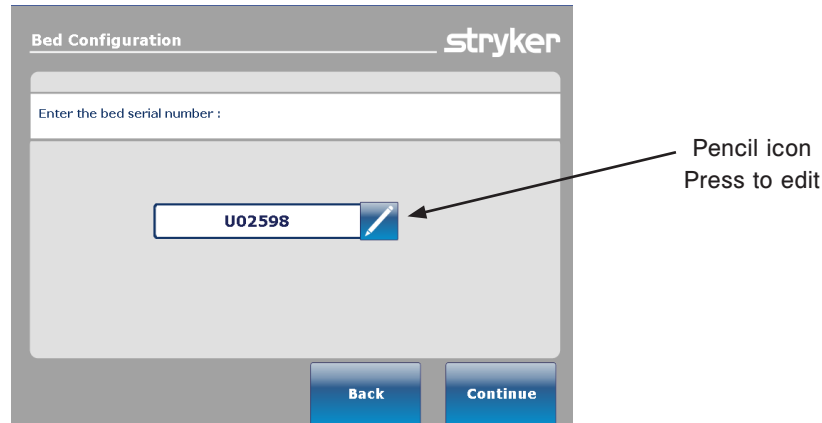

Figure 32: Bed Configuration Serial Number Screen
1. Press and hold the **HOB 30** button and the **Vascular Position** button at the same time for 5 seconds then release both buttons. The Bed Configuration - Serial Number screen (Figure 32) will be displayed.
2. Enter or confirm the serial number of the bed (Figure 32).
- ii. Enter the serial number of the bed in the serial number field, then press the **OK** button. You will be returned to the serial number main screen as shown in Figure 32.